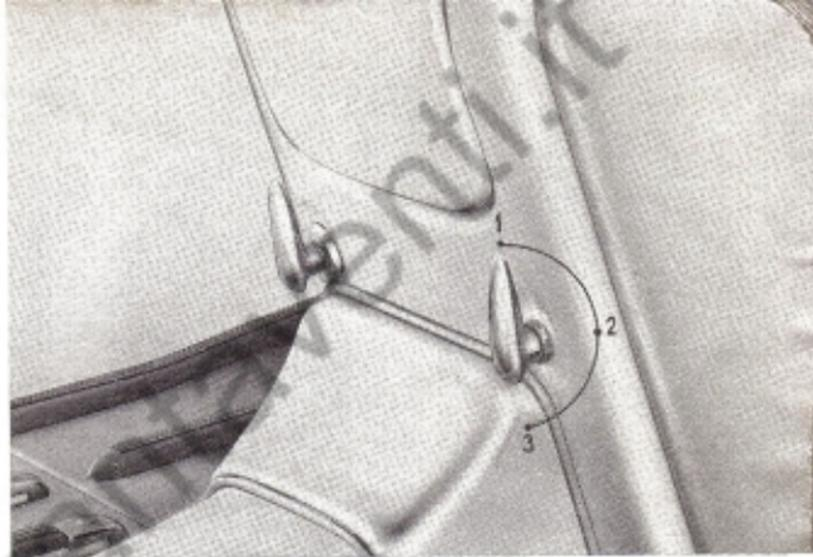

Fig. 6
**On Left hand side:** 3-way fuel tap (open, reserve, closed) see fig. 6.